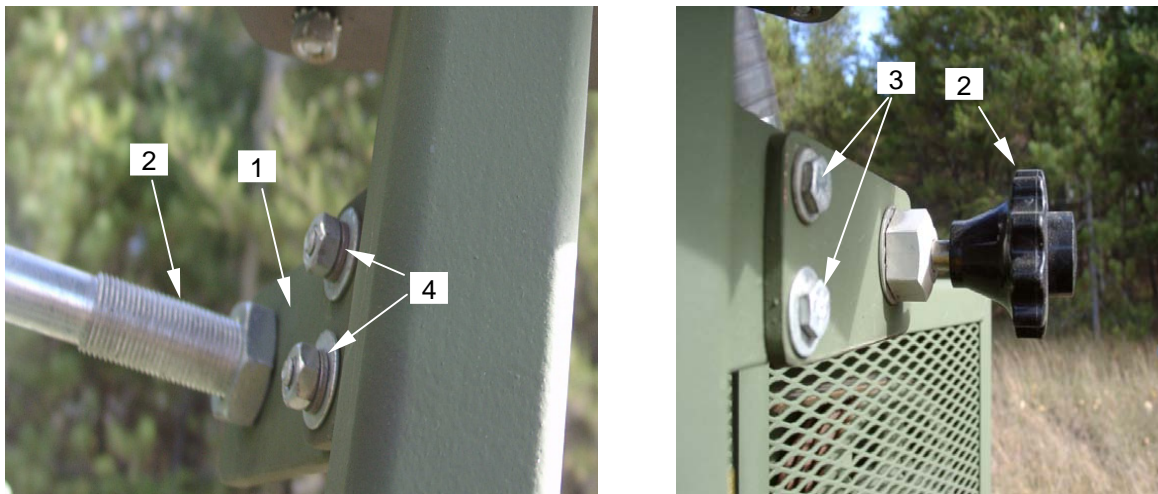

Figure 6. Removal of Hoses and Throttle
1. Remove throttle mounting plate (**figure 6, item 1**) with throttle attached (**figure 6, item 2**), by removing two hex bolts (**figure 6, item 3**), nuts, flat and lock washers (**figure 6, item 4**). Retain hardware. Do not disconnect throttle from engine. Move the disconnected throttle linkage out of the way during replacement of vacuum pump.